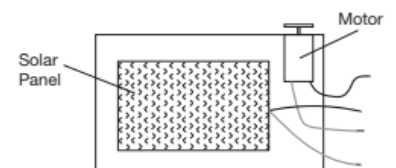

Figure 5.
5. Gently press the solar panel on top of the tape to secure it near the center of the chassis (see Figure 5).